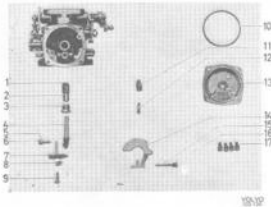

Fig. 2-127. Lower section disassembled
Remove the floatchamber by unscrewing the four screws (17, Fig. 2-127) for the cover. Use a new rubber ring (10) when fitting the cover. The cover should be fitted with the inside collar at the float valve.